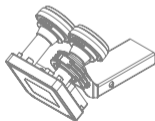

Fig. 2
2. Set the correct tilt angle of the LNB by rotating the LNB clockwise or counterclockwise: The tilt angle of the LNB (K) depends on the location of the satellite dish antenna installation and the satellite to be received. For example, for receiving Hotbird at 13°E in Warsaw, the tilt angle of the LNB should be 6° counterclockwise. Fine angle adjustment turning should be done using a satellite signal meter or a satellite receiver measurement indications (Fig. 2).